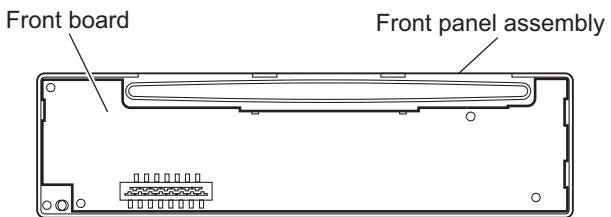

Fig.10
- (3) Take out the front board. (See Fig.10)
(See Figs.10 and 11)